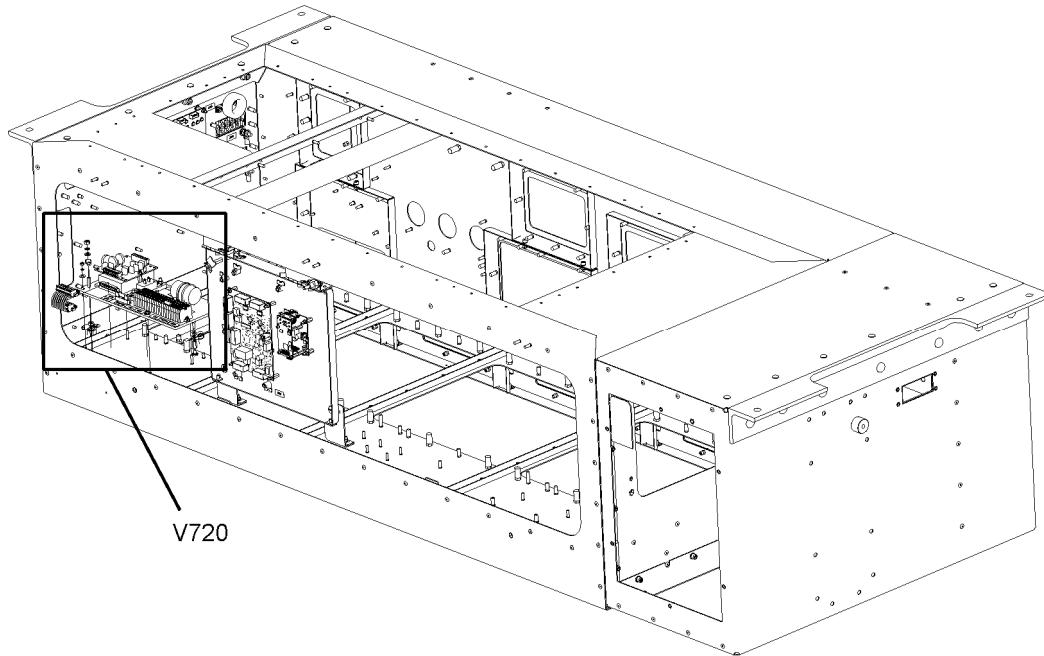

Figure 5-63: Location of V720
3. Locate V720. See Figure 5-63 for the location of the V720.